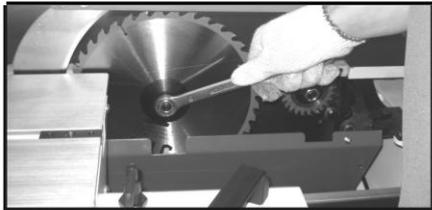

Fig.43
6. Install the new blade, re-install the arbor flange and the arbor nut and tighten them against the blade. (fig.43)